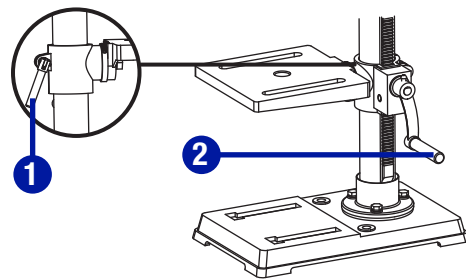

Fig. 16
**ADJUSTMENTS TO RAISE OR LOWER TABLE (Fig. 16)**
- Raise or lower the table by loosening the column lock handle (1) and turning the crank handle (2) until the table is at the desired height.
- Tighten the table lock handle (1) before drilling.
- Rotate the table around the column by loosening the column lock handle (1) and turning the table around the column to the desired position.